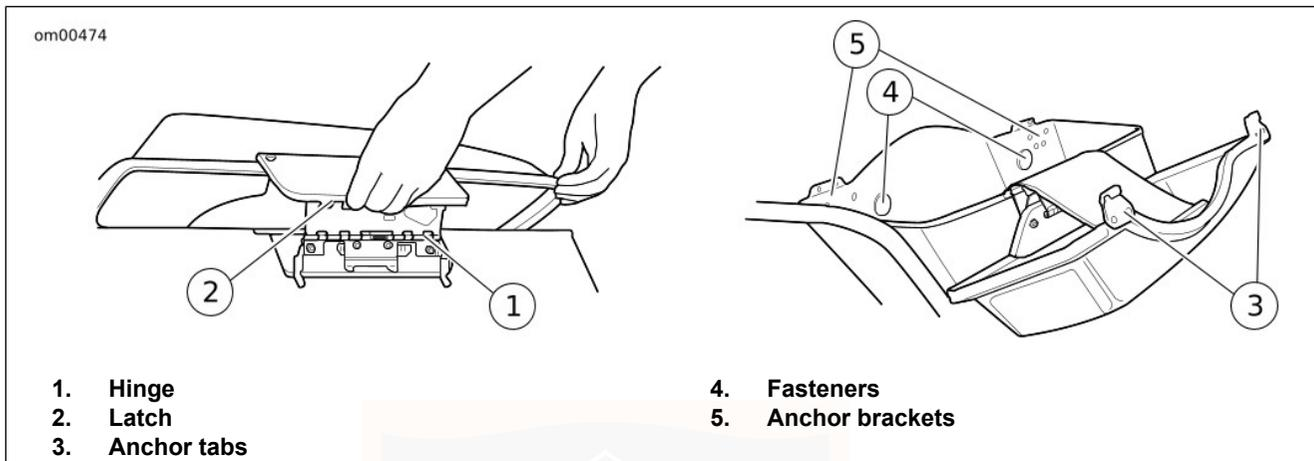

Figure 16. Saddlebags
1. See Figure 16. To open the latch, grab latch with fingers and lift.
1. See Figure 16. Use both hands to hold OUTSIDE corners of cover up and slide inside edge back into place so brackets slide together.
1. See Figure 16. Open saddlebag lid and turn fasteners 1/4 turn counterclockwise.